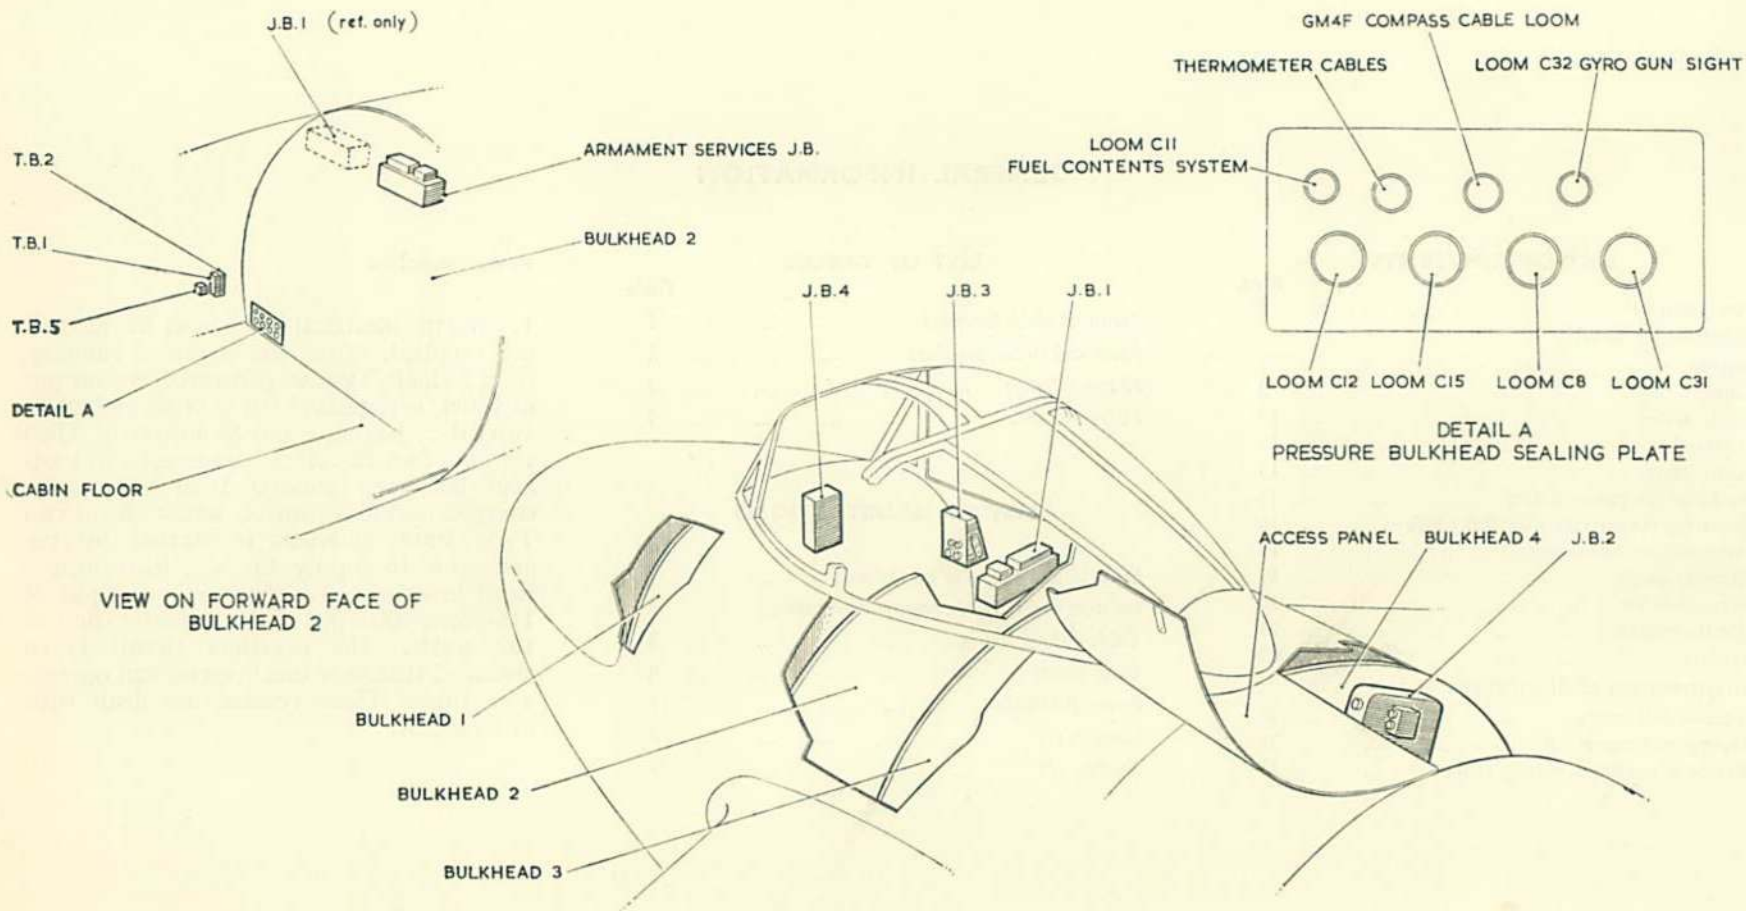

Fig. 1. Location and access of components
3. The location of the junction boxes is shown in fig. 1. J.B.1 is the main junction box and houses most of the fuses for the aircraft electrical services. The fuses are contained in four fuse blocks mounted on the top of the junction box, which is, in turn, covered by a waterproof rubber shield secured by a fastener at each end of the box. The top of the box can be unfastened to provide access to components by removing seven bolts, two at either end and three along the front.